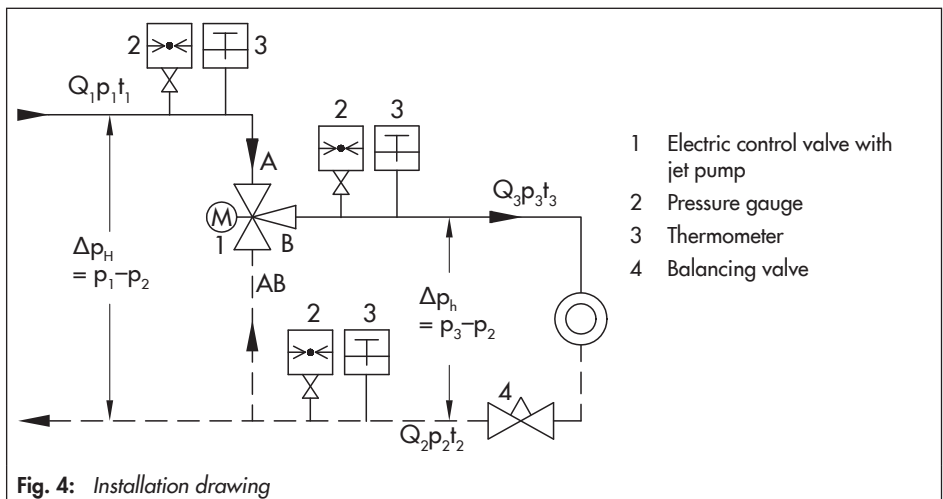

Fig. 4: Installation drawing
Fig. 4 shows the correct arrangement of the jet pump with the required additional instruments. Thermometers and pressure gauges must be installed in the generator and consumer flow pipes and in the return flow pipe. A manually operated throttle valve or balancing valve is absolutely necessary in the plant's return flow pipe. When using the jet pump in ventilation systems, a soft-start for winter conditions must be included.
- The flow direction of ports A, B, and AB must match those specified in the plant schematics (Fig. 4).
- Keep the mixing line AB (Fig. 4) as short as possible. Do not mount check valves or shut-off valves into the mixing line.